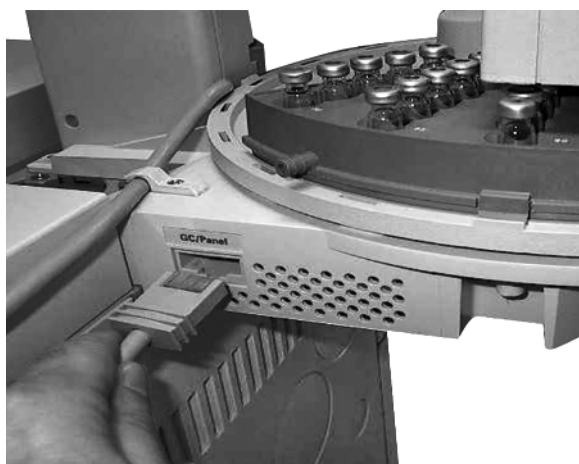

Figure 6. Connect power cable
7. Connect the GC/Panel cable to the port at the lower rear of the tray assembly. See Figure 6.